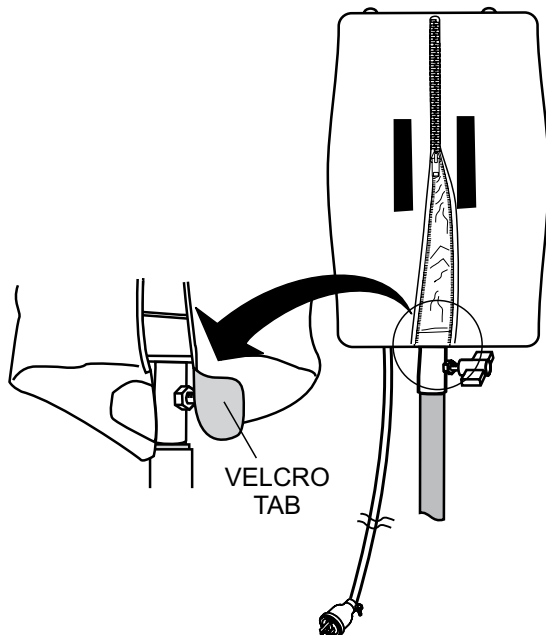

Figure 12. Removing Balloon/AC Power Cord
2. Expose the balloon by pulling down on the velcro tab and unzip the protective cover as shown in Figure 12. Also remove the AC power cord at this time.